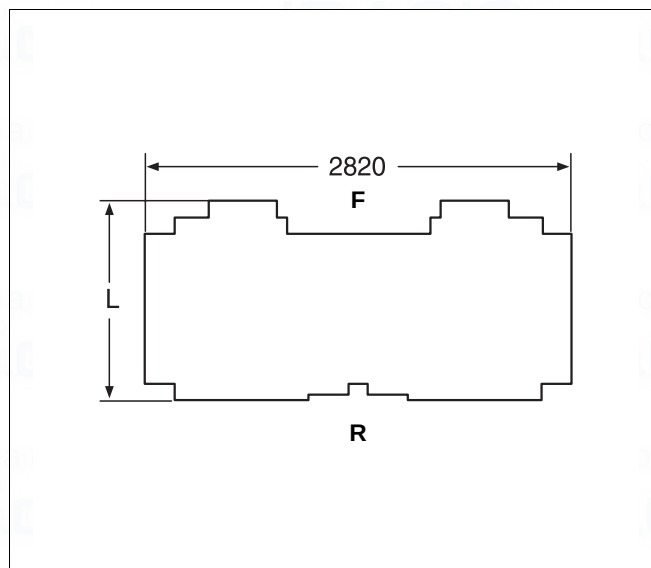

Fig. 32 Thermal insulation
- ▶ The thermal insulation provided corresponds to the boiler size (Tab. 3). The thermal insulation must be arranged on the boiler block as shown in Fig. 32.